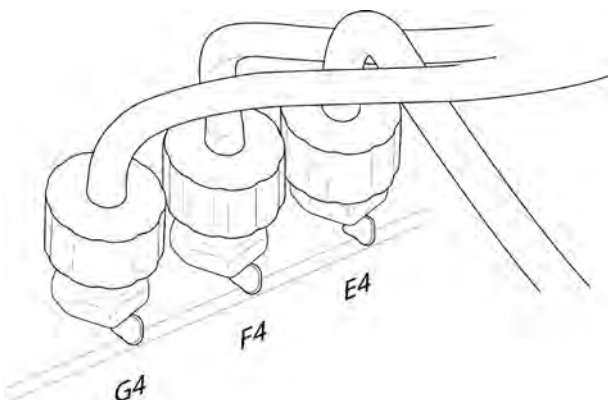

Figure 7.10
2. Disconnect the luer fitting and tube from port E4 on the gas delivery engine. See Figure 7.10 and the tubing diagram in appendix B.